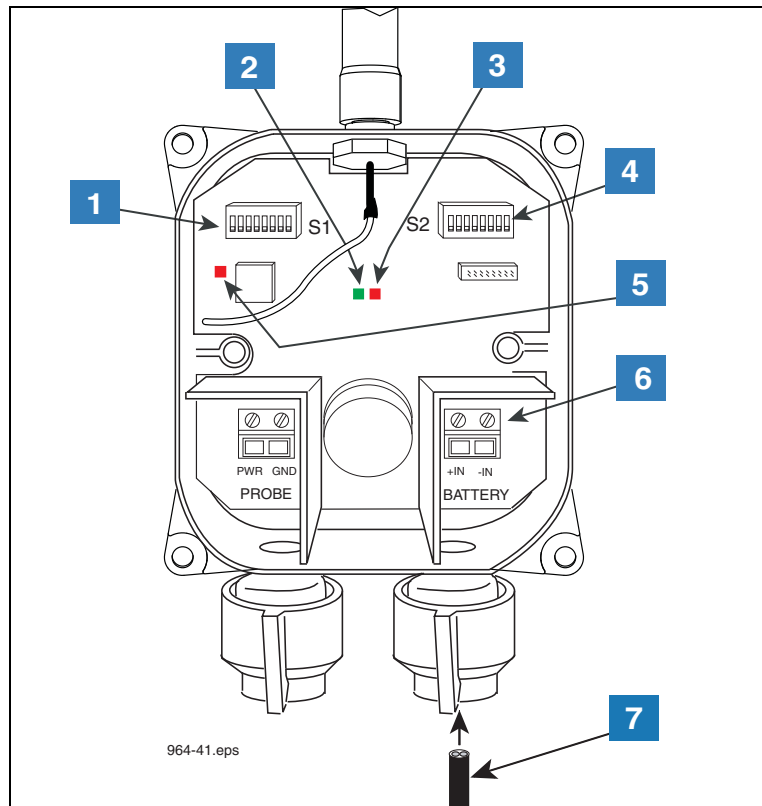

Figure 5. Wiring The Battery Cable To The Transmitter
- e. Connect the battery pack/dc power cable to the BATTERY terminal block (white to +IN and black to -IN) as shown in Figure 5.
LEGEND FOR NUMBERED BOXES IN Figure 5
- a. Connect the first Transmitter's battery cable to a battery pack; noting the Red LED should be flashing momentarily then followed by the Green LED (refer to item 2 and 3 in Figure 5). Since there is no Sensor connected, the two LEDs should be flashing. This is an indication a Sensor communication error and is acceptable at this step.